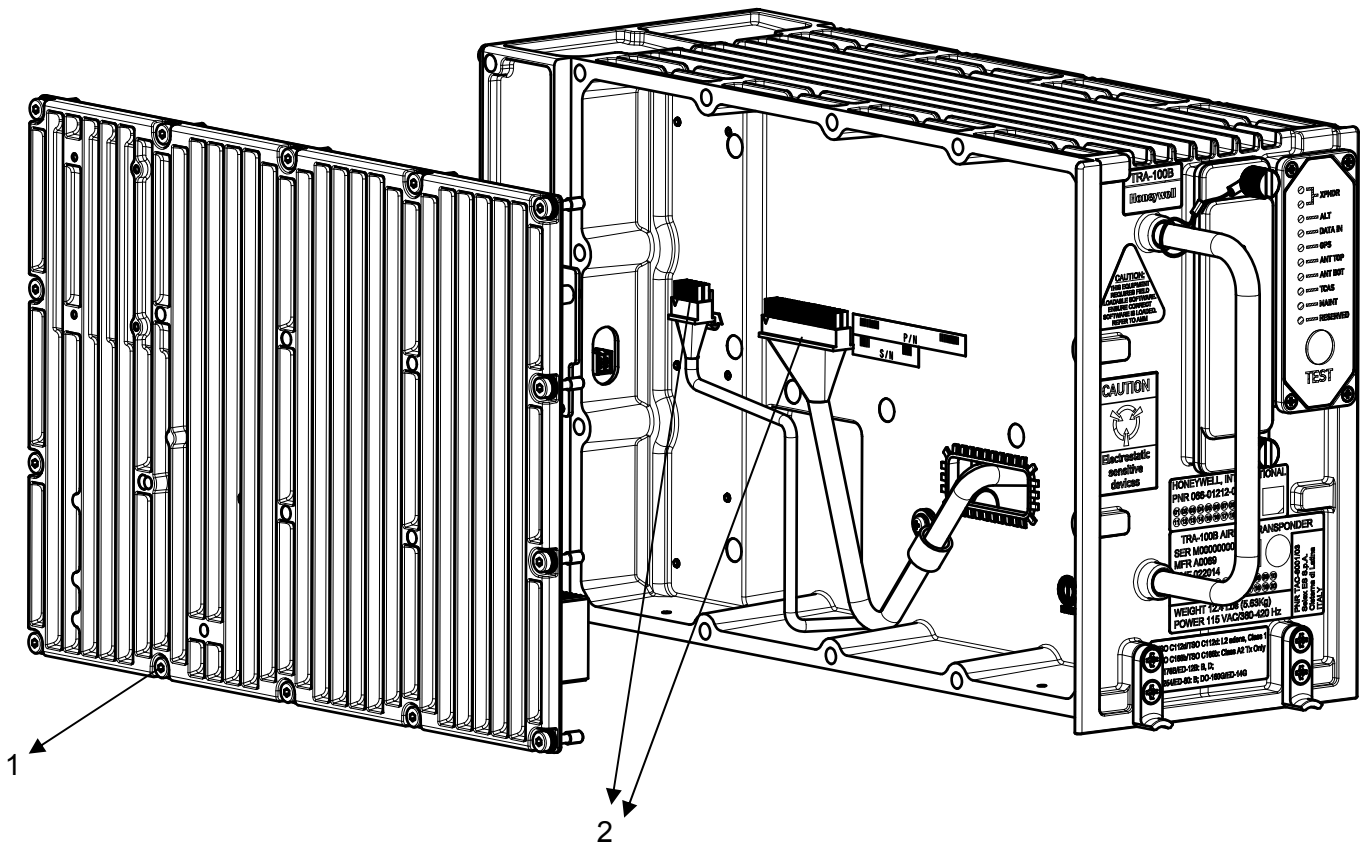

Figure 8-4 – TRA-100B, AC Power Supply (ACPS) – Replace procedure
- 1.1. Removal Transponder cover (left side) unscrewing the M2,5 fourteen crosshead screws using a torque screwdriver bit holder and related bit (1). (Figure 8-4, Figure 8-5)
- 2.1. Insert the DC Power Supply module on a serviceable AC Power Supply module. (Figure 8-4, Figure 8-5)
- 1.2. Removal the AC Power Supply together with DC Power Supply following the procedure reported in Figure 8-4 and Figure 8-5
- 2.2. Install the AC Power Supply together with DC Power Supply following the procedure reported in Figure 8-4 and Figure 8-5.